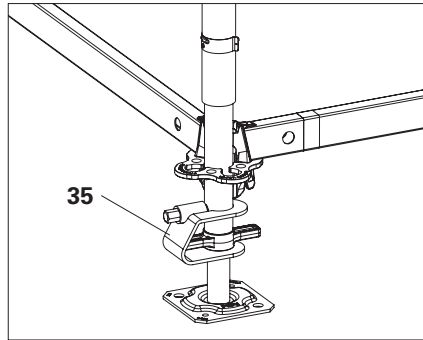

Fig. C1.01
1. Secure Base Spindles UJB with Spindle Locking UJS (**11**). (Fig. C1.01)